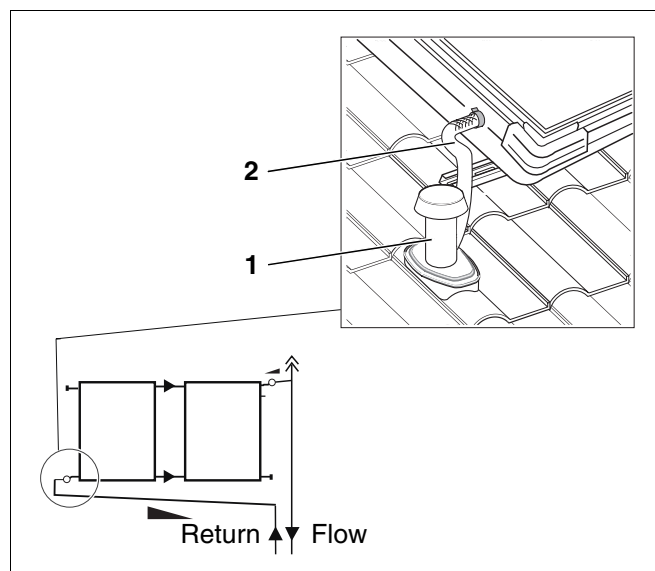

Fig. 43 Connecting return line
During the installation ensure that the return pipe is run below the collector array rising to the array (Fig. 43).
- ▶ Fasten the long solar hose (Fig. 43, **Item 2**) to the collector with the hose clip.
- ▶ Guide the return line into the attic through a suitable roof opening (e.g. soil vent cover) (Fig. 43, **Item 1**).